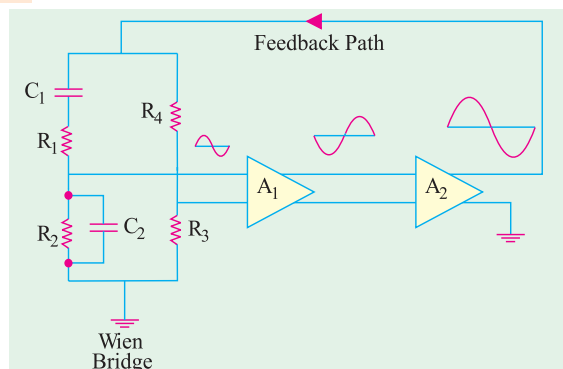
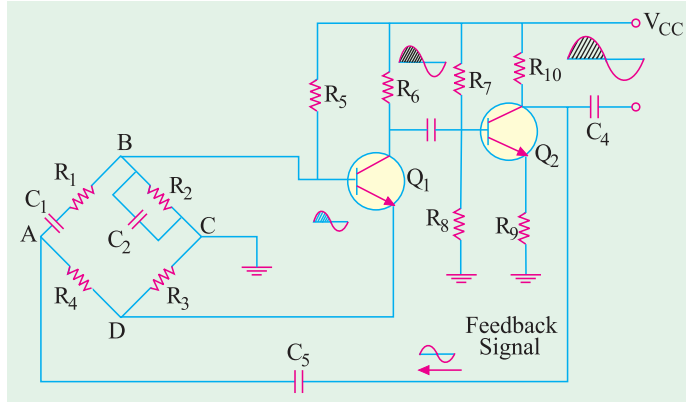

Fig. 65.20
Fig. 65.21
It is a low-frequency (5 Hz — 500 kHz), low-distortion, tunable, high-purity sine wave generator, often used in laboratory work. As shown in the block diagrams of Fig. 65.20 and Fig. 65.21, this oscillator uses two CE-connected RC-coupled transistor amplifiers and one RC-bridge (called Wien bridge) network to provide feedback. Here,  $Q_1$  serves as amplifier-oscillator and  $Q_2$  provides phase reversal and additional amplification. The bridge circuit is used to control the phase of the feedback signal at  $Q_1$ .
Any input signal at the base of  $Q_1$  appears in the amplified but phase-reversed form across collector resistor  $R_6$  (Fig. 65.21). It is further inverted by  $Q_2$  in order to provide a total phase reversal of  $360^\circ$  for positive feedback. Obviously, the signal at  $R_{10}$  is an amplified replica of the input signal at  $Q_1$  and is of the same phase since it has been inverted twice. We could feed this signal back to the base of  $Q_1$  directly to provide regeneration needed for oscillator operation. But because  $Q_1$  will amplify signals over a wide range of frequencies, direct coupling would result in poor frequency stability. By adding the Wien bridge, oscillator becomes sensitive to a signal of **only one particular frequency**. Hence, we get an oscillator of good frequency stability.
**Example 65.13.** Calculate the resonant frequency of a Wien Bridge oscillator (shown in Fig. 65.21) when  $R = 10\text{ k}\Omega$  and  $C = 2400\text{ pF}$ .
**Example 65.14.** Design RC elements of a Wien Bridge oscillator (shown in Fig. 65.21), for operation at 2.5 kHz.